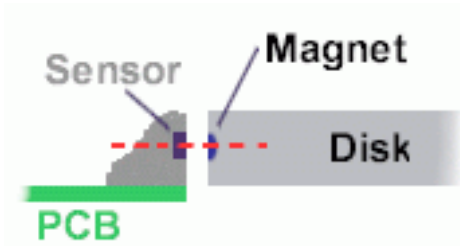

Figure 3 Ensure correct alignment of magnet disk and sensor.
- Take care that the magnets in the disk are approximately in the same height as the sensor, see figure 3 on page 10.